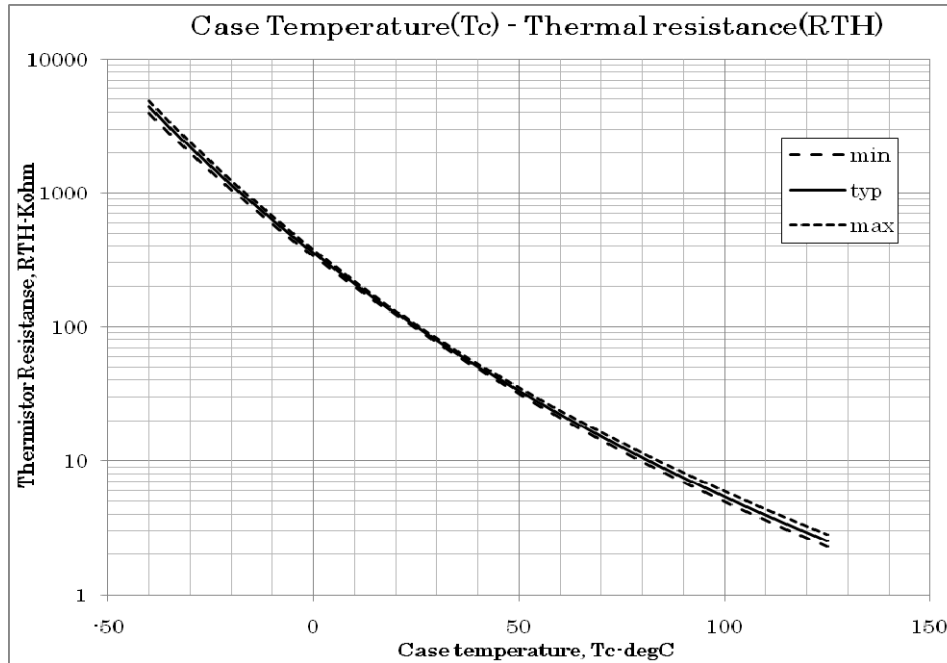
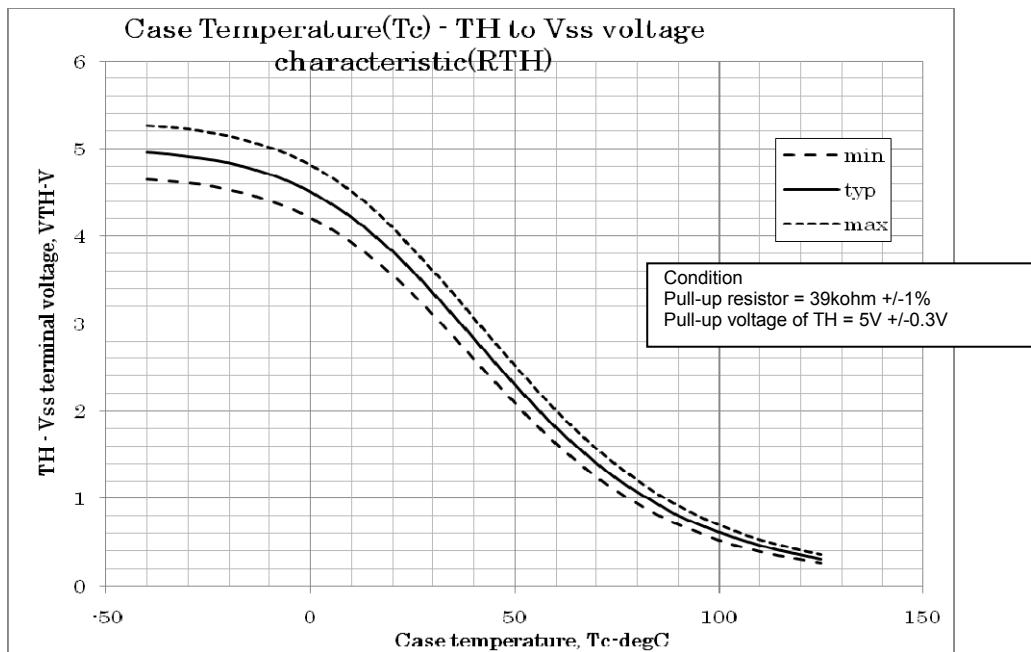

Fig.10 Variation of thermistor resistance with temperature.
Fig.11 Variation of temperature sense voltage with thermistor temperature.
4. Inside the IPM, a thermistor used as the temperature monitor for internal substrate is connected between “TH1” and “TH2” . Generally, one of terminals is connected to VSS, and the other is pulled up to external power supply with pull-up resistor (Rp) externally. The temperature monitor example application is as follows please refer the Fig.10 and Fig.11 below.